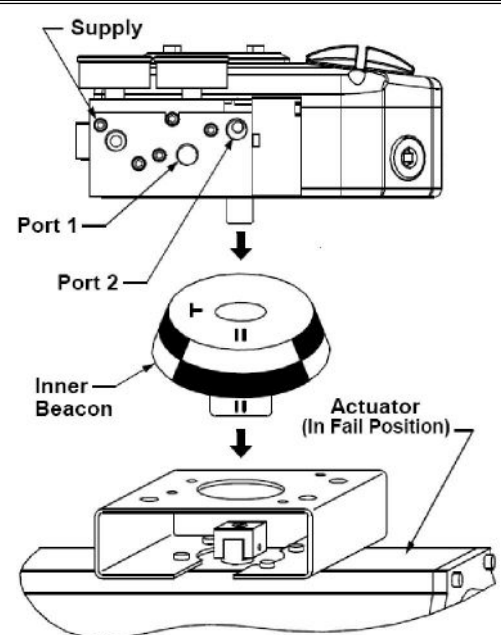

Figure 3-2
Step 2. Press fit the inner beacon to the inner beacon coupler. The inner beacon needs to be properly oriented. Use the symbols on the top of the inner beacon to mount as shown in Condition 1 or Condition 2. (see figure 3-2). Condition 1 and Condition 2 show the placement of the inner beacon with respect to the positioner housing while the actuator is in the fail position.